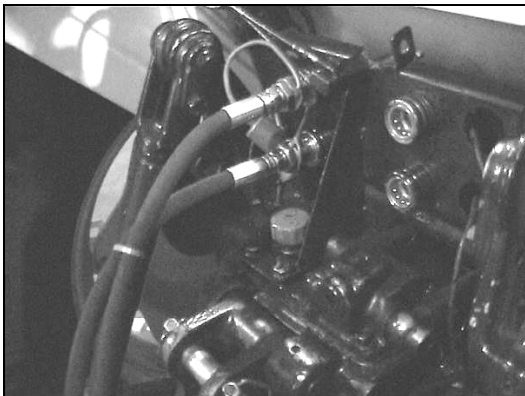

fig.9 – Hydraulic system connection
- Install the control lever console (Fig. 9) with the in the tractor cabin.